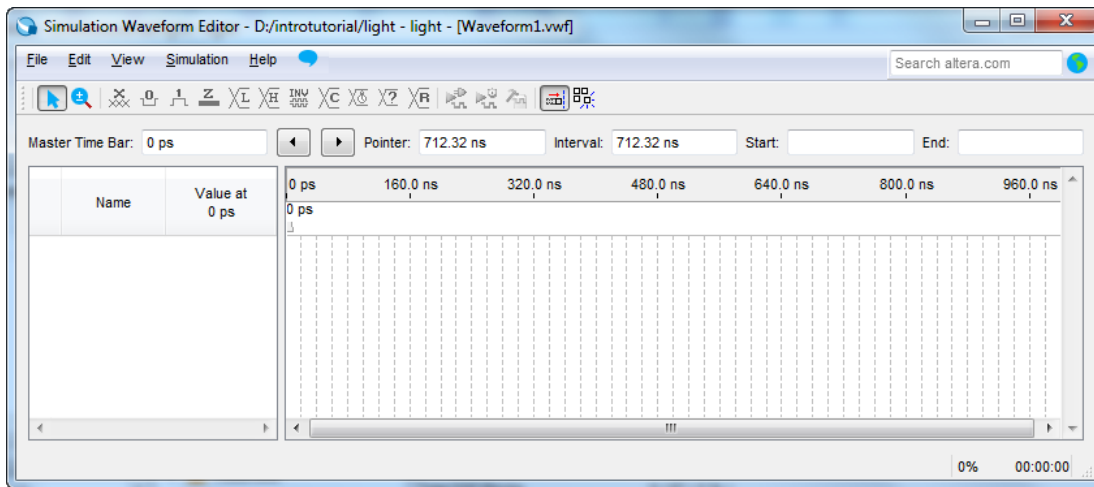
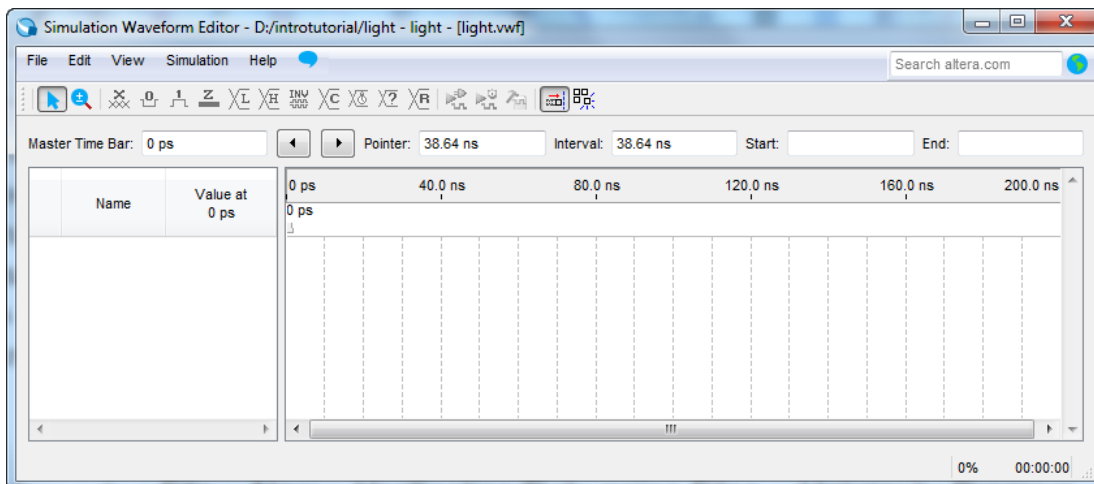

Figure 33. The Waveform Editor window.
Figure 34. The augmented Waveform Editor window.
2. The Simulation Waveform Editor window is depicted in Figure 33. Save the file under the name *light.vwf*; note that this changes the name in the displayed window. Set the desired simulation to run from 0 to 200 ns by selecting **Edit > Set End Time** and entering 200 ns in the dialog box that pops up. Selecting **View > Fit in Window** displays the entire simulation range of 0 to 200 ns in the window, as shown in Figure 34. You may wish to resize the window to its maximum size.